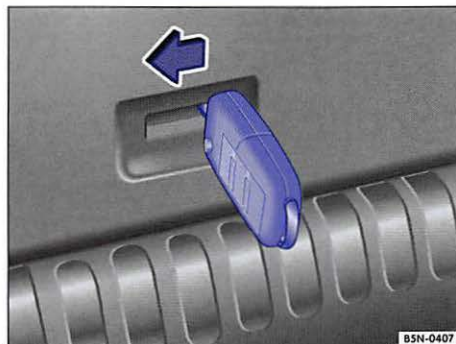

Fig. 149 Inside the luggage compartment: Opening the rear hatch.
- Insert the key into the slot on the rear hatch $\Rightarrow$ fig. 149 and press the release lever in the direction of the arrow to unlock the rear hatch.